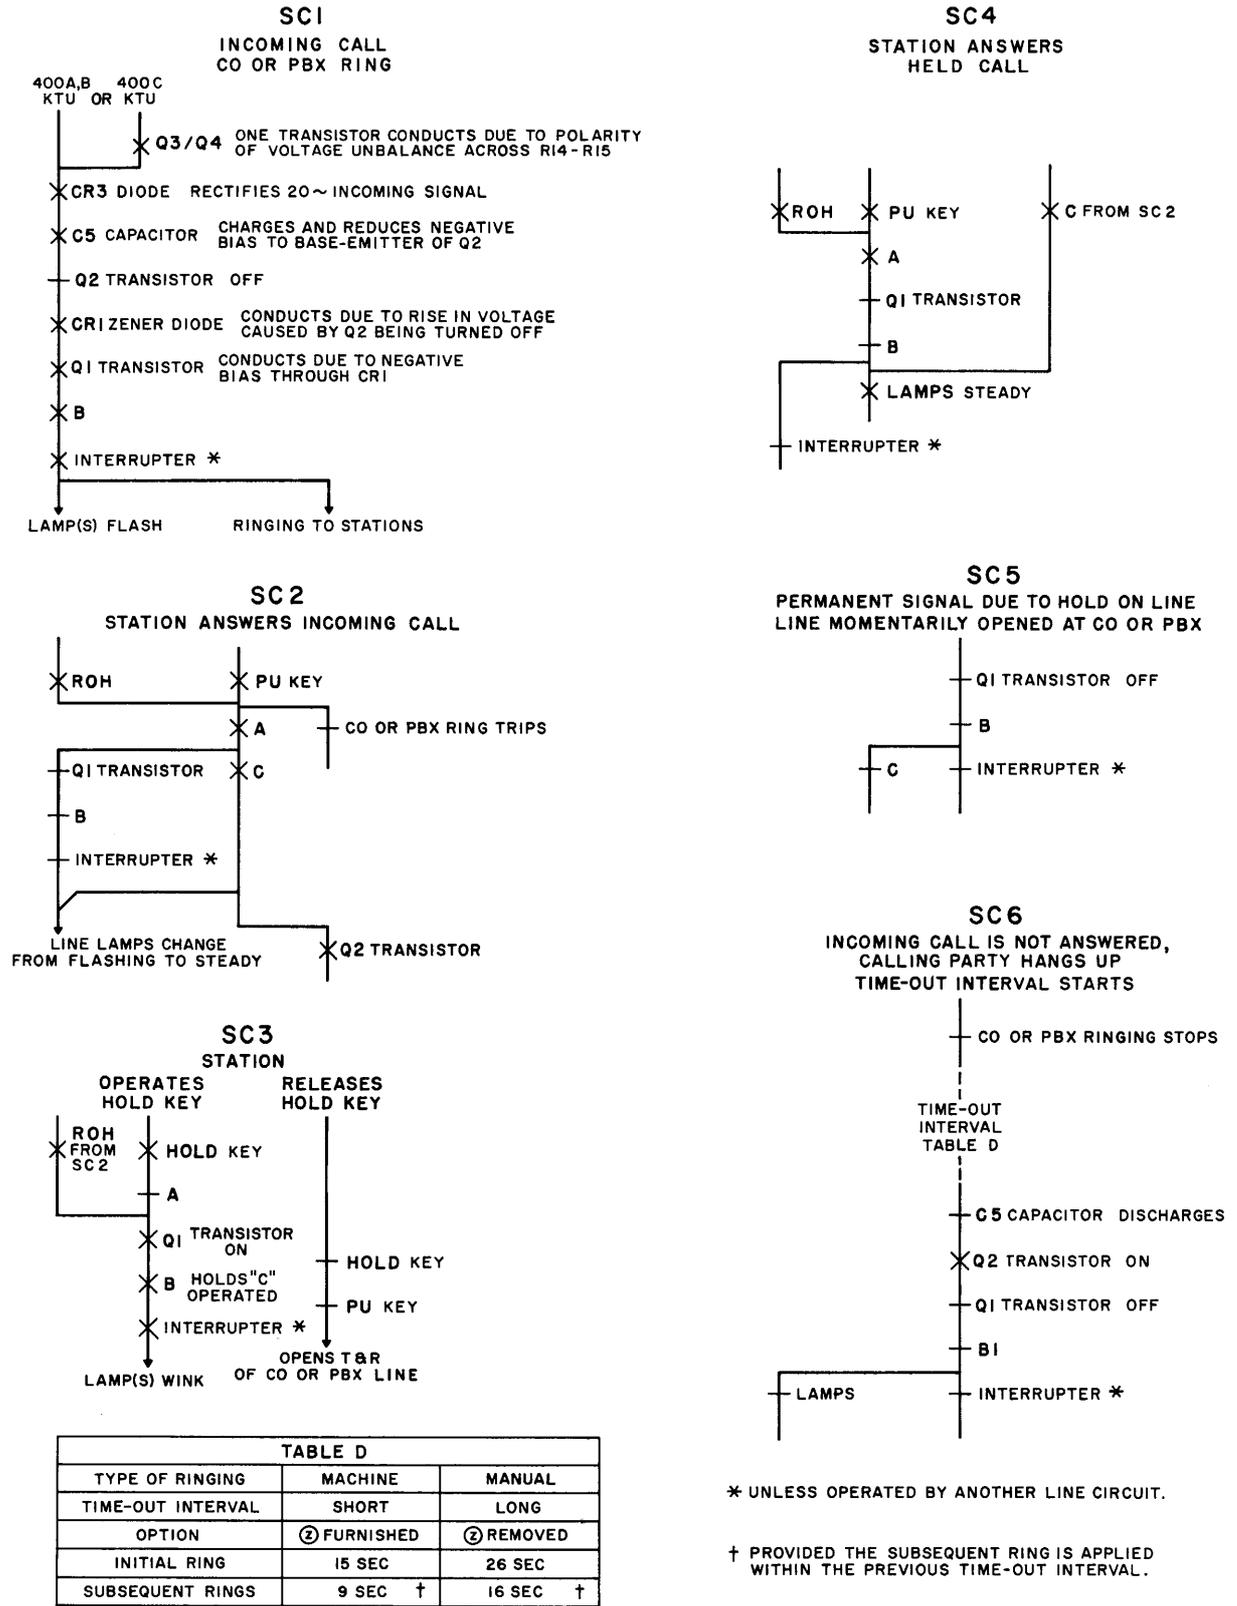

Fig. 7 — Sequence Charts (SC1 to SC6) Showing Operational Sequence of 400A, B, and C KTUs
**5.04** Operational sequence charts are shown in Fig. 7 and 8.